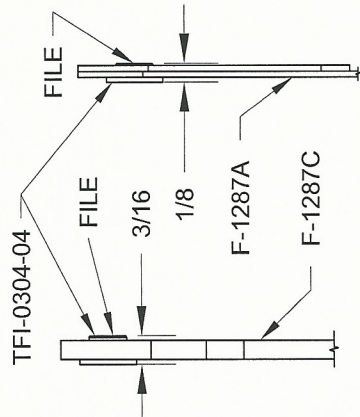

FIGURE 5:
- Step 10: File the polymer bushings inserted in previous step. The bushings must be **greater than** the thickness of the part and **less than** the dimension given in Figure 5.